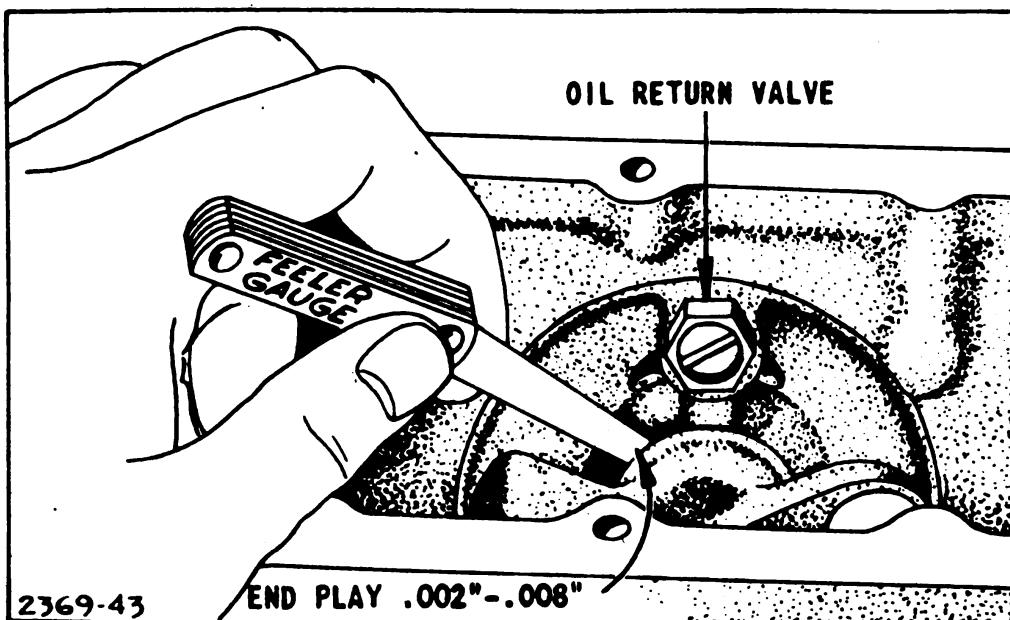
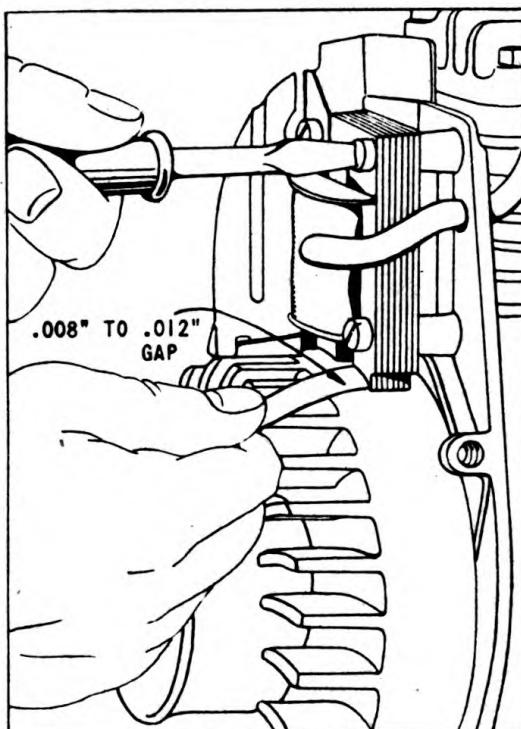

Figure 13.—Checking end play
Figure 16.—Checking air gap
21. TO REPLACE MAGNETO.—Use same gasket between plate and crankcase or if damaged a new gasket, see parts #67307, #67597, or 67607# for proper thickness to get correct end play of .002 to .008 inch between magneto bearing and crankshaft thrust faces (fig. 13). Use lock washers when mounting screws.
b. Air gap of .008 to .012 inch must be maintained between armature core ends and flywheel (fig. 16). Gap must only be sufficient to prevent rubbing and must not exceed .012 inch. To adjust gap to proper clearance, loosen the four armature-mounting screws, slide armature assembly up, and place correct feeler gauge or three thicknesses of newspaper between rim of flywheel and armature core end. Lower armature assembly until core ends rest on gauge and tighten mounting screws securely (fig. 13).
36. OIL LEAKS.—If oil leaks from either end of crankshaft main bearings, remove base from engine. Oil return valves are screwed into crankcase and magneto back plate below main bearings. Remove oil return valve and clean or flush with gasoline and blow out any dirt lodged under the small disc. Replace if necessary (fig. 13).